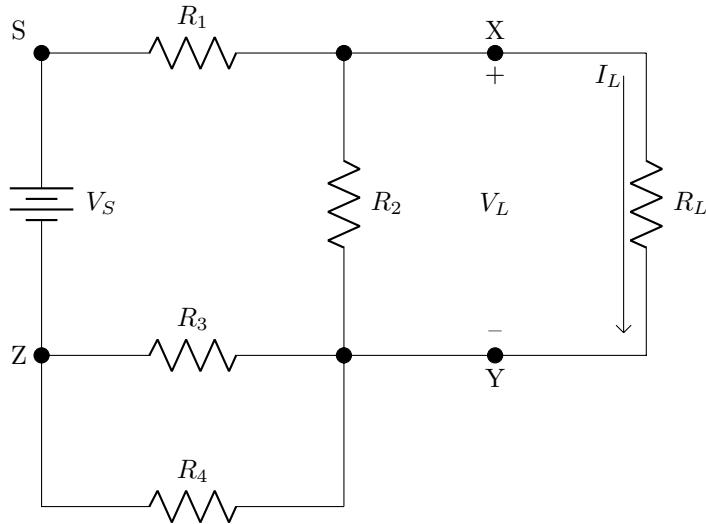

Figure 2.1: Lab #2 Figure
Refer to the circuit seen in Figure 2.1. Resistor values have been selected from available components. Nominal values should be used for calculations and simulations, but as soon as measured values are available, they should be used to improve comparisons among calculations, simulations and measurements.
- E. Simulate the circuit from Figure 2.1 in Multisim using the measured component values. Measure I_L using an ammeter. **Record I_L .**